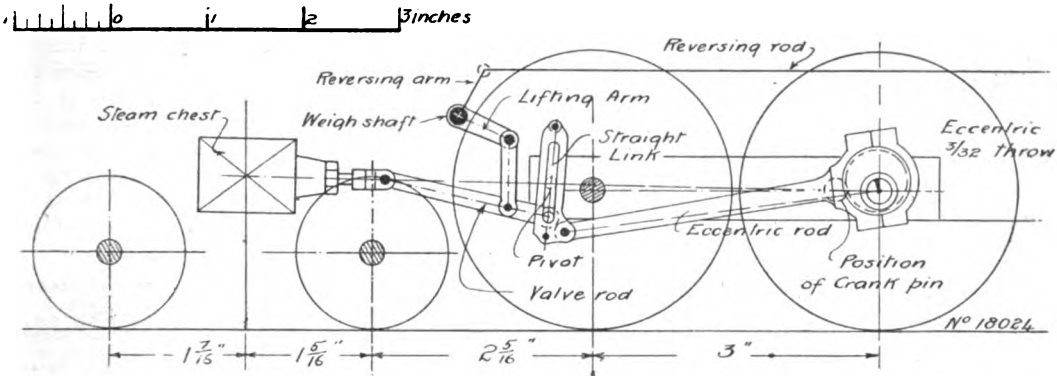

FIG. 1.—SINGLE ECCENTRIC VALVE MOTION FOR 2-IN. GAUGE "ATLANTIC" LOCOMOTIVE.
publish herewith two sketches, showing a method of applying the gear to an outside cylinder "Atlantic" express engine. There are two positions in which the link may be placed: (1) behind the leading coupled axle, and (2) in front of the coupled axle, as shown. With the G.N.R. wheelbase dimensions (see drawing) we tried the first method, and even with the eccentric rod very short we found that the cranking of the valve rod to clear the couple axle works out rather excessive, therefore we recommend the arrangement shown in Fig. 1. The link, as will be seen, is straight, and is built up on a back plate similar to that for the gear shown on the next page (p. 155) of "The Model Locomotive." There is no necessity to make the link curved, as linking up in such a small model locomotive is never resorted to. The most convenient position of the weigh-